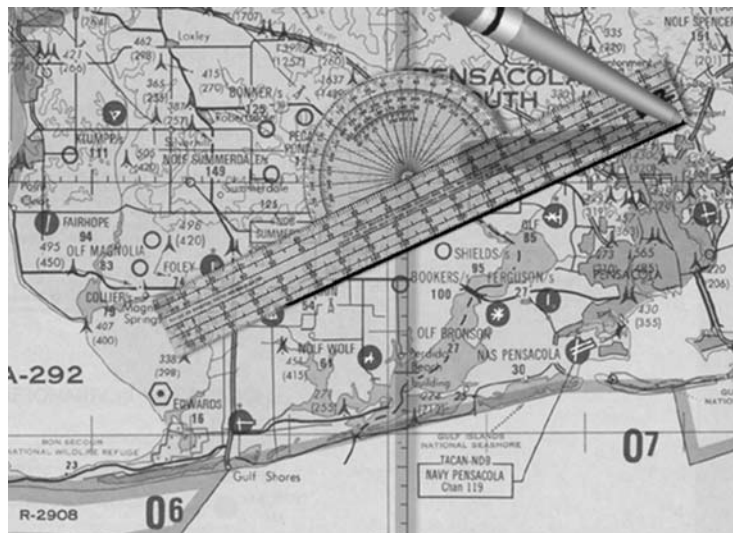

Figure 4.2-20b Plotting East/West Direction
4. When placing a meridian under the grommet, read the course from the outer scales. (Figure 4.2-20b)